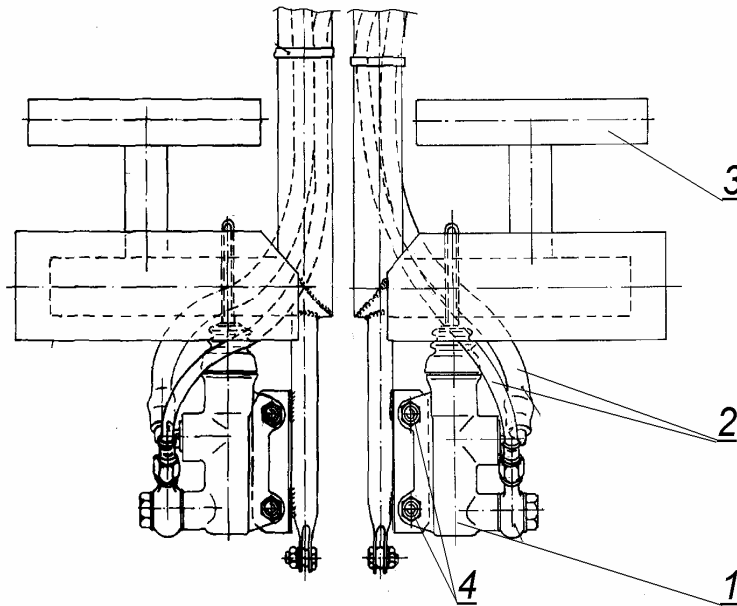

Figure 10-6 Installation the brake cylinder
10.3.4 Removal and installation the brake cylinder (see Figure 10-6)